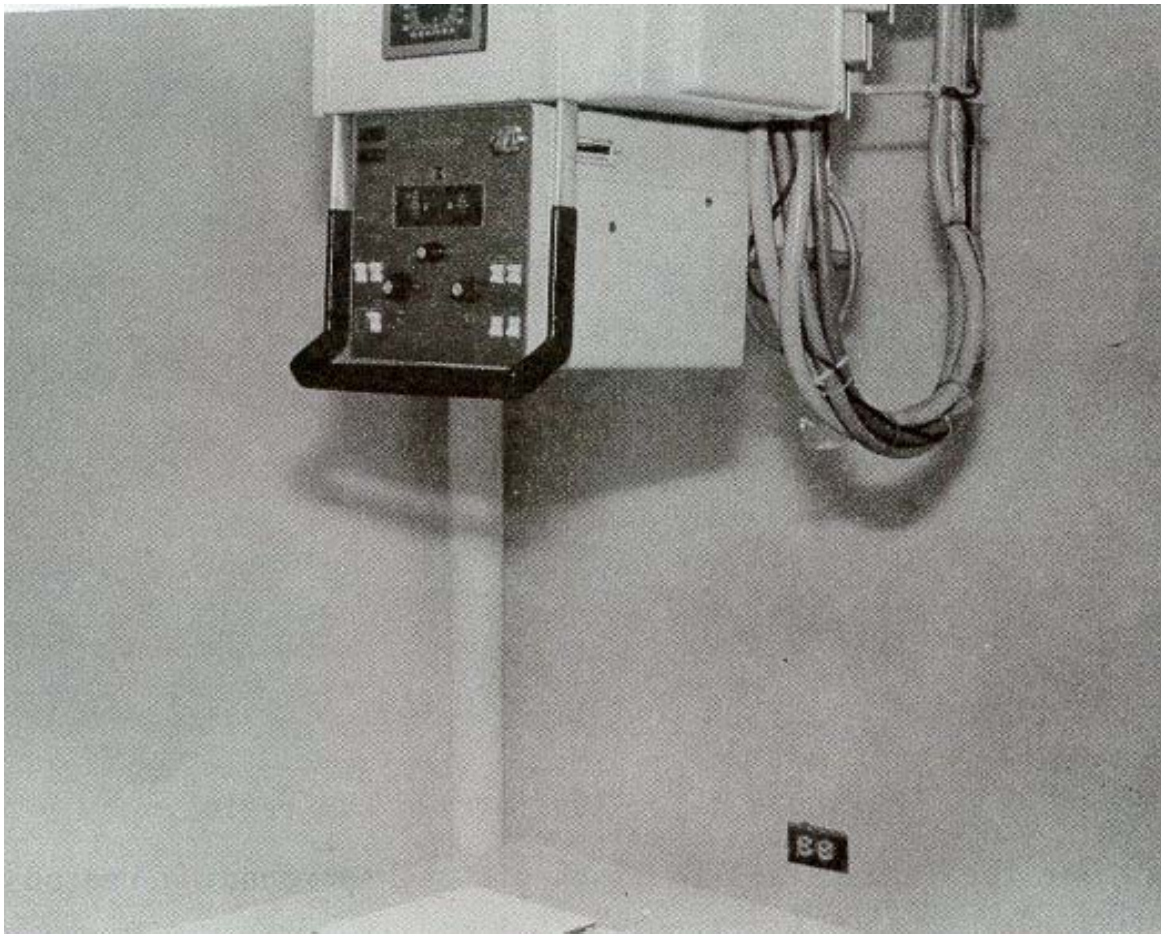

Figure 4-4. Testing 100 kVp region.
- (1) 80 kVp.
- (2) 75 mAs.
- n. Collimate the x-ray beam to the 100 kVp region (see figure 4-4).